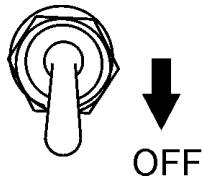

Figure 17. Idle Control Switch (OFF)
11. Place idle control switch (Figure 17) in the **OFF** (down) position. This will allow the engine speed to run at about 3600 RPM's.
Placing the idle control switch in the **OFF** position (Figure 17) allows the engine to operate at a maximum speed of about 3600 RPM's.